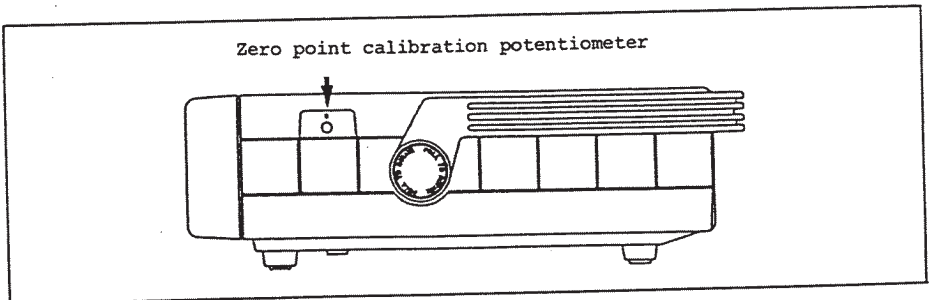

Figure 8-3 Location of Temperature Measurement Zero Point Calibration Potentiometer
- ③ Turn the potentiometer (Figure 8-3) with a slotted head screwdriver until the value obtained by subtracting the error caused by thermocouple and the error of the 0°C ice unit from the displayed value is $0.00^{\circ}\text{C} \pm 2$ digits.